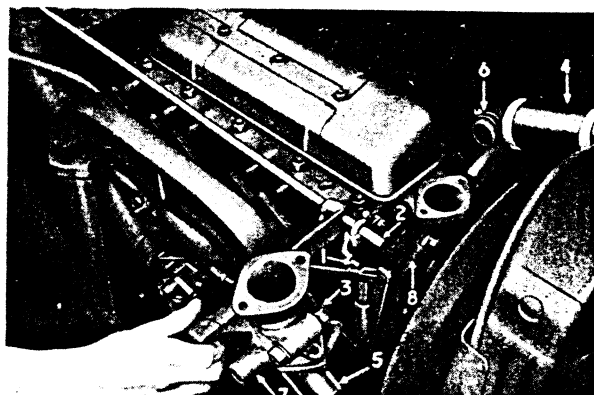

FIG. 6
Preparations for Lifting Cylinder Head (Fig. 6).
9. Swing clear the assembly comprising thermostat body and water outlet elbow, pivoting on throttle rod, as shown in Fig. 6.
11. Using service wrench FTB2, remove manifold nuts. Pull manifold off its studs and leave suspended clear of cylinder head as shown in Fig. 6. Remove gaskets.